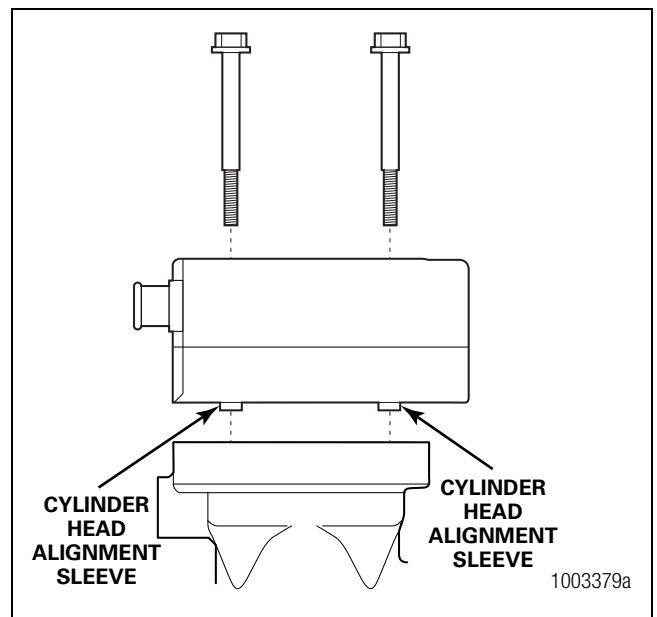

Figure 3.8
4. Position the cylinder head on top of the crankcase. Ensure the notched pins on the cylinder head align with the recesses in the block. Only two bolt holes have split alignment sleeves. Figure 3.8.